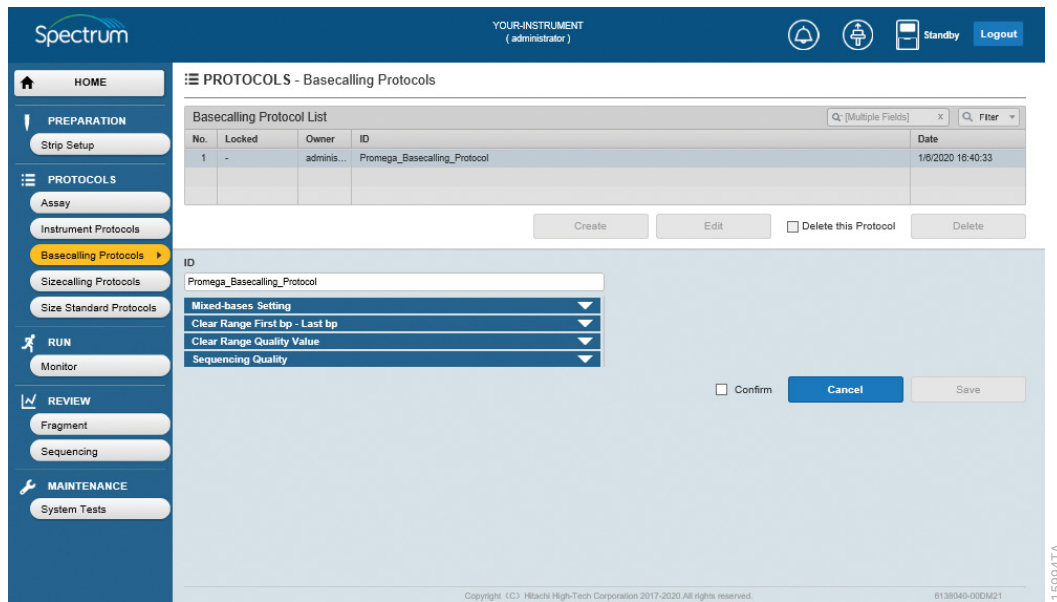

Figure 46. 'Basecalling Protocols Edit' screen with active fields.
8. Select **Edit**. This will enable the ID field, **Mixed-bases Setting**, **Clear Range First bp–Last bp**, **Clear Range Quality Value** and **Sequencing Quality** pull-down menus (Figure 46).